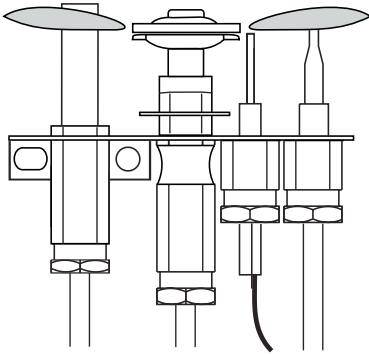

Figure 15. Pilot Burner.
2. Adjust pilot screw to provide properly sized flame as shown in figure 15).